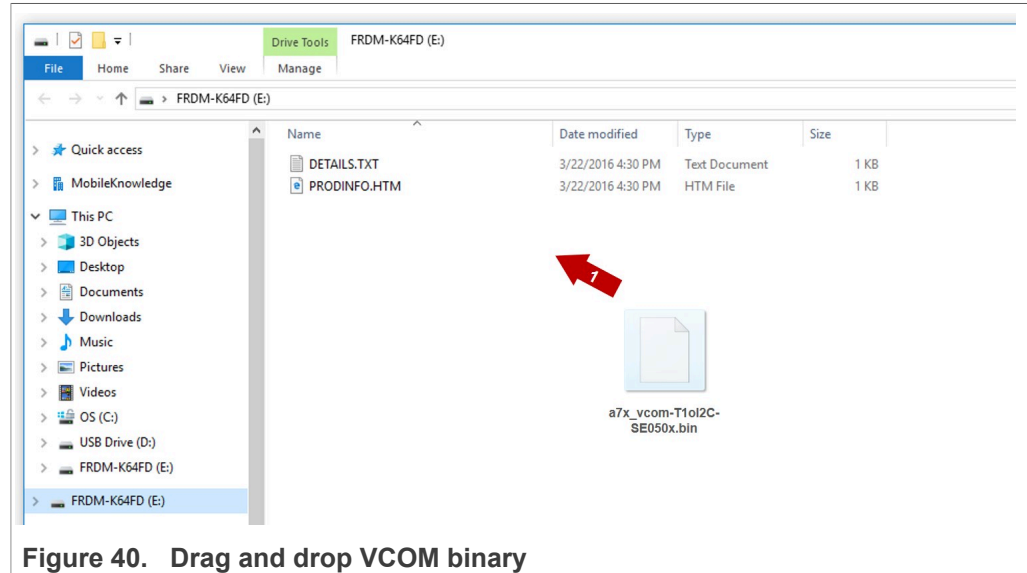

Figure 40. Drag and drop VCOM binary
4. Drag and drop or copy and paste the `a7x_vcom-T1oI2C-frdmk64f-SE050x.bin` file into the FRDM-K64F drive from your computer file explorer as shown in Figure 40: